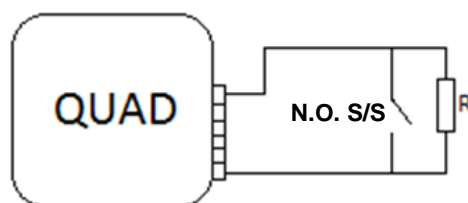

Figure 7. Normally open switch/sensor. Parallel resistor
- **Normally Open (N.O.) Switch / Sensor:** the circuit remains typically open and only becomes closed in the event of an interruption or a detection in the switch/sensor. The selected resistor should be connected to the circuit line in parallel, and as closer as possible to the switch/sensor, preferably in touch with its terminals and hardly accessible from outside. See Figure 7.